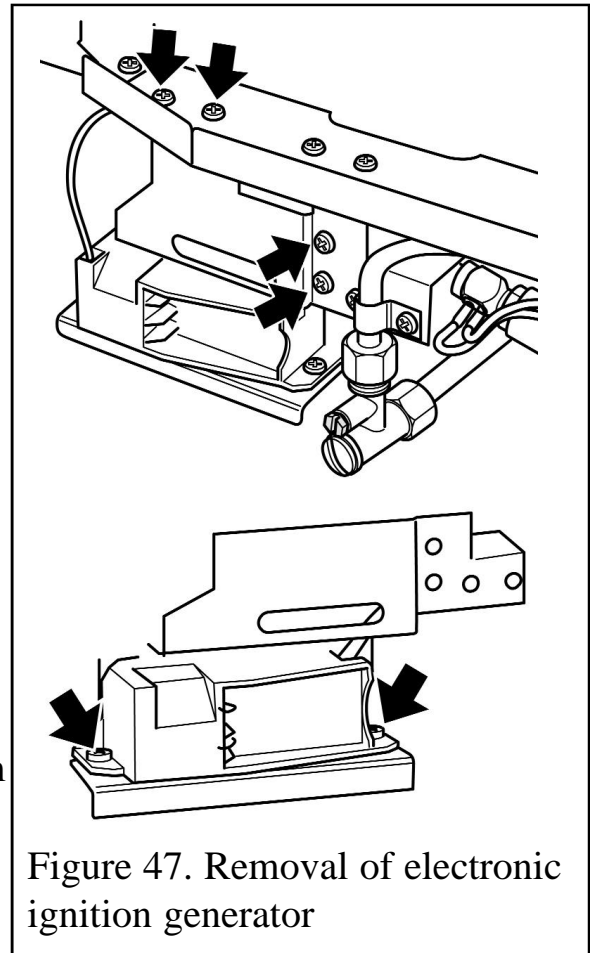

Figure 47. Removal of electronic ignition generator
5. Unscrew the four support bracket screws (See figure 47). The generator and its support bracket can now be moved forward. Be careful not to apply tension to the microswitch leads.
The igniter generator can now be removed. (See figure 47).